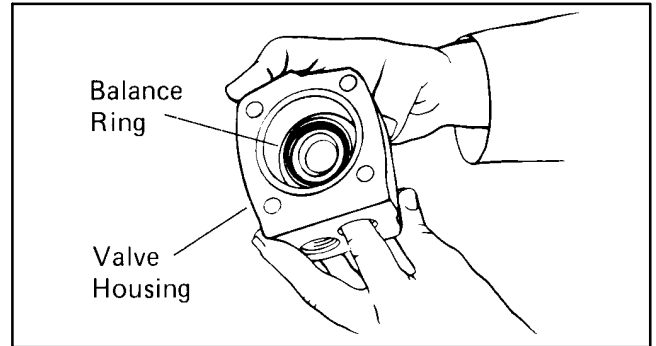
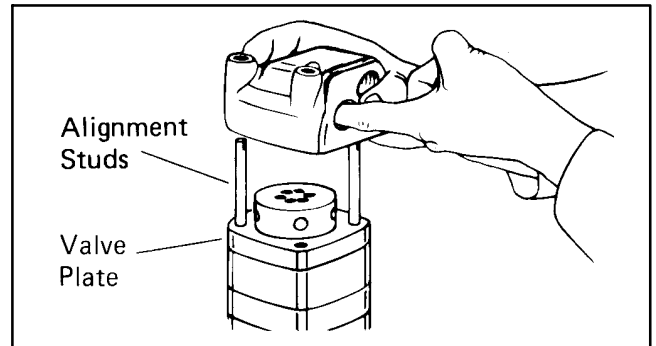

Figure 86
Figure 87
39. Insert your finger through port of valve housing. Apply pressure to side of balance ring as shown in Fig. 86. Hold ring in position until valve housing is in place against valve plate. See Fig. 87.